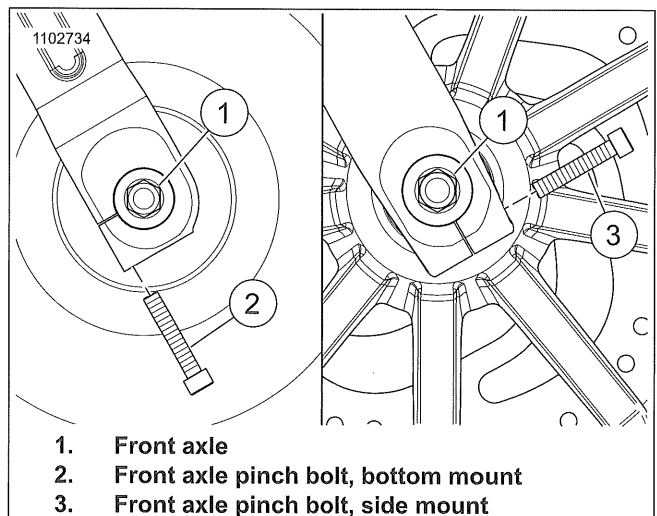

Figure 3-3. Front Axle Pinch Bolt
1. See Figure 3-3. Remove front wheel.
2. See Figure 3-3. Tighten pinch bolt.